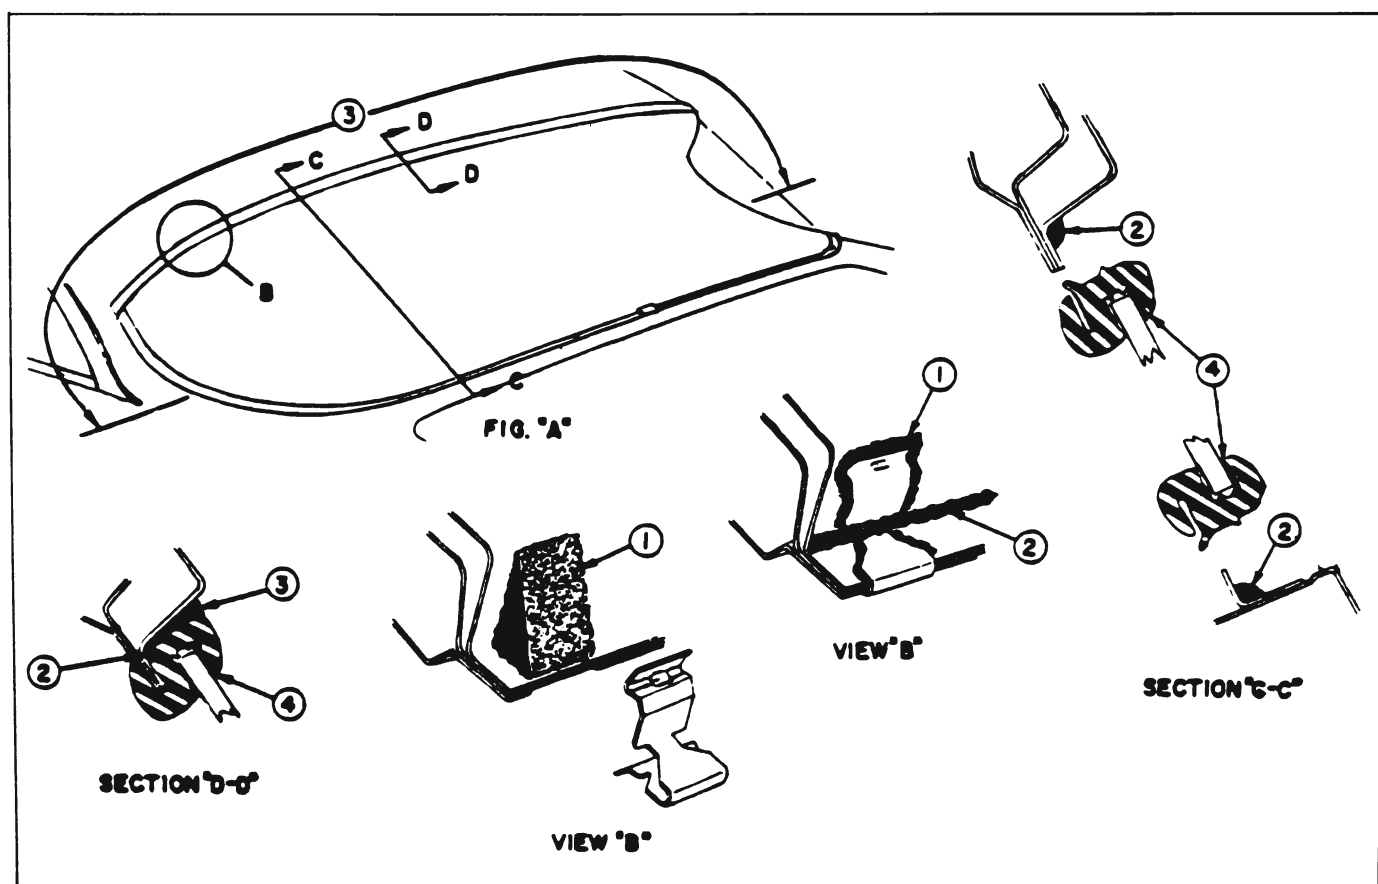

Figure 13-87—Installation of Back Window Assembly
6. Check installation of molding clips at pinchweld flange. If replacing clips apply medium-bodied sealer to open rabbet at clip locations as shown at "1" in Figure 13-87 and install clip.
11. Using a pressure-type gun flow completely fill opening between rubber channel and body across top and down each side of back window to a point approximately 8 inches below corner of window with medium-bodied sealer (see "3" Figure 13-87).
13. Apply approved weatherstrip cement between glass and outer lip of rubber channel completely around perimeter of glass (see "4" Figure 13-87 Section C-C).
4. Remove two (2) bolts shown in figure 13-87 securing lid to each hinge strap and with aid of helper remove rear compartment lid.